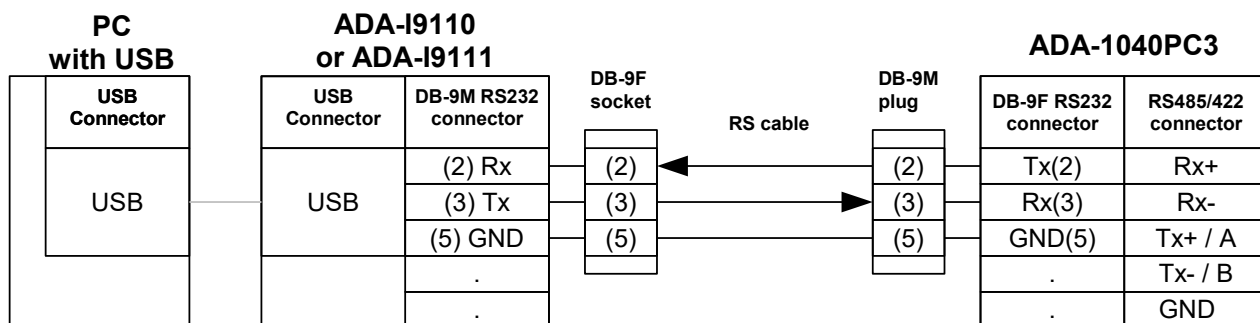

Fig. 5. ADA-1040PC3 connection to PC by the use of additional converter USB to RS232 (ADA-I9111 or ADA-I9110).
- USB computer port, should be used additional converter USB to RS232 (ADA-I9111 or ADA-I9110), which connect to RS232 port of ADA-1040PC3 as on diagram Fig.5.